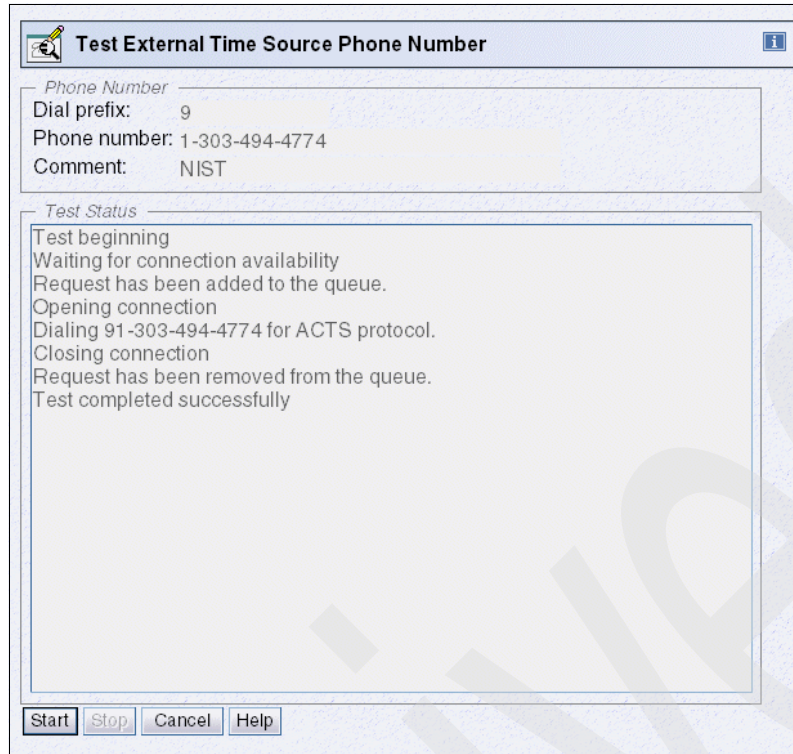

Figure 7-4 Test External Time Source Phone Number
6. When the dial-out phone number has been added, the Test button in the Customize Outbound Connectivity panel becomes selectable. Click **Test** to ensure that the correct configuration and connectivity to the ETS service provider has been accomplished. See Figure 7-4.